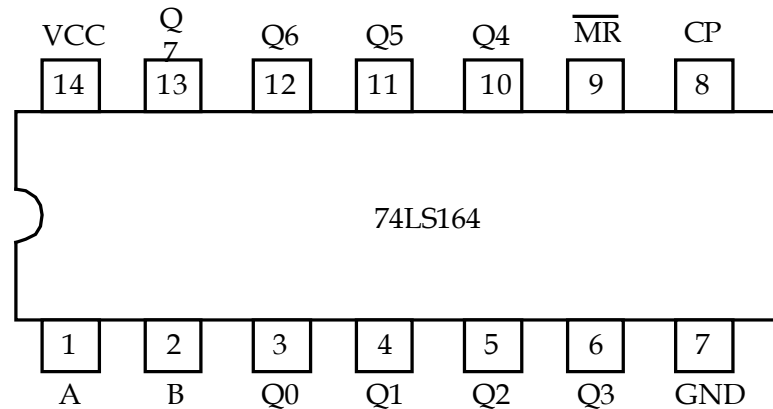

Figure 9.18 74LS164 pin assignment
- Pin assignment and truth table are shown in Figure 9.18 and Table 9.5, respectively.